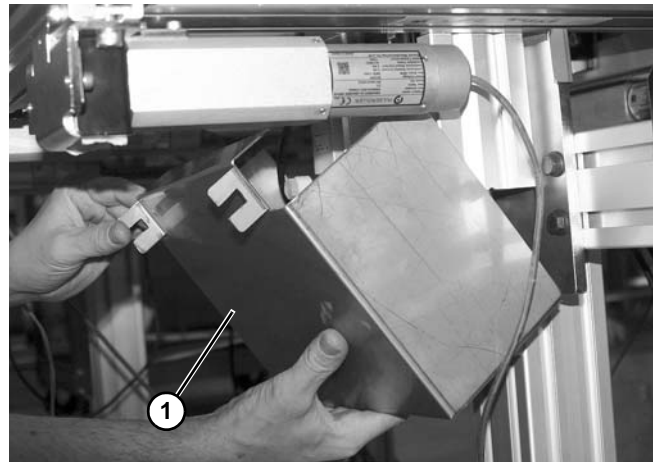
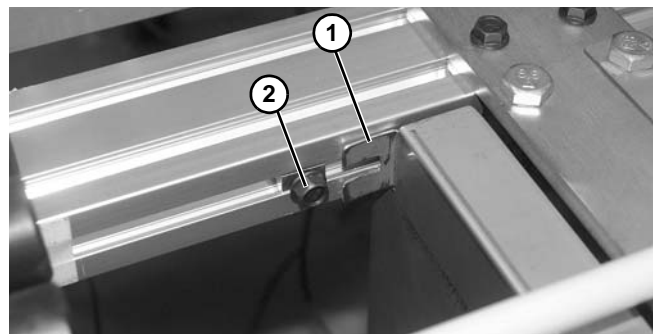

Figure 88
Figure 89
2. Remove cylinder guard (**Figure 88, item 1**) by sliding slotted tabs (**Figure 89, item 1**) of guard off of bolts (**Figure 89, item 2**) on each side.